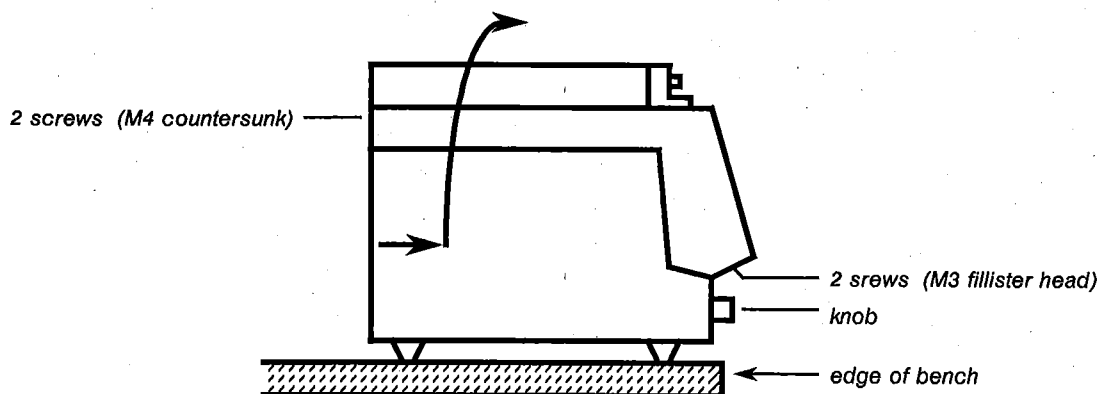

Fig. 1
- Slide the unit to the edge of bench, so that the M3 screws can be removed (Fig. 1)
- Lift upper part of unit together with exchange unit by movements as shown in Fig. 1.